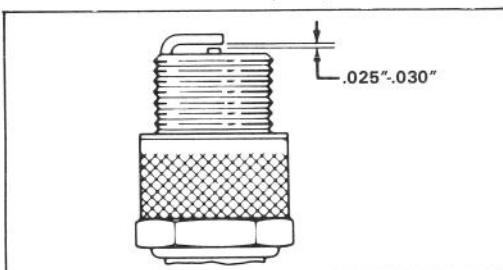

Figure 25
### REPLACING SPARK PLUG (Fig. 25)
3. Set air gap between electrodes of new spark plug at .025-.030 of an inch (Fig. 25). Next, install spark plug in cylinder head. Tighten plug to 15 ft-lb. If torque wrench is not used, tighten plug firmly.